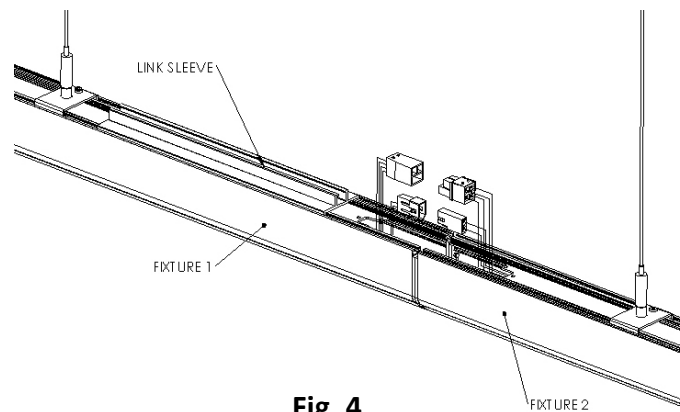

Fig. 4
5. Connect wiring harness of fixture 1 to harness of fixture 2. Ref (Fig. 4)